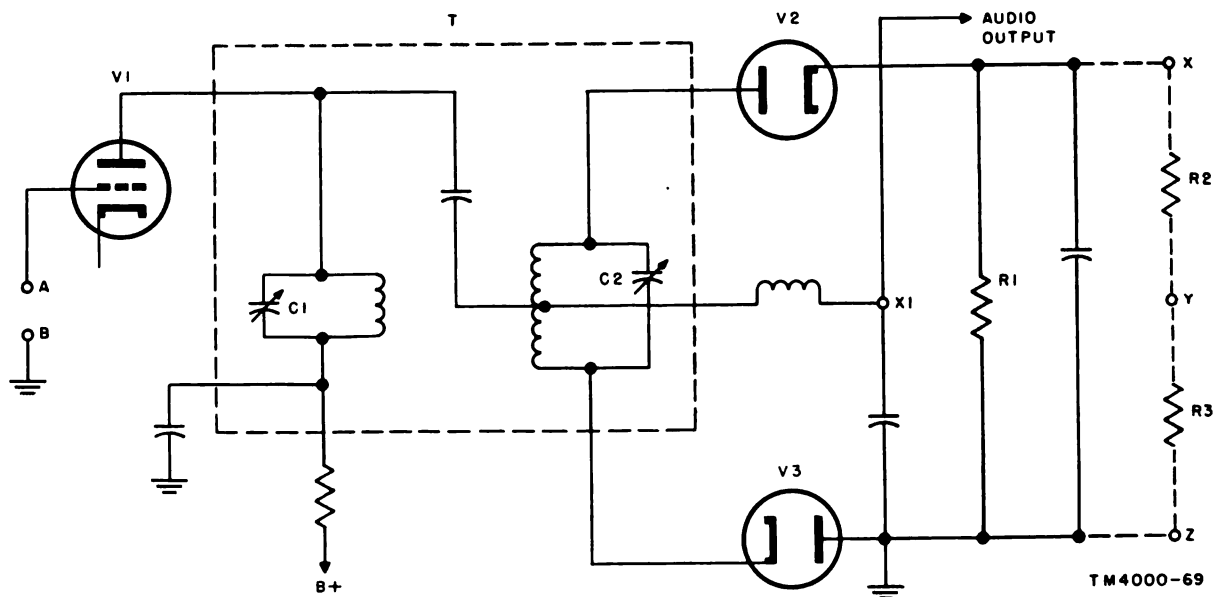

Figure 82. Ratio detector circuit, showing modification for alinement.
b. To align the ratio detector (fig. 82), connect the signal generator as indicated in a above and set the generator to the correct frequency. Connect a high-resistance meter across R1 and adjust the primary of T for a maximum indication on the meter.
c. To align the secondary, it is necessary to divide the load circuit into two symmetrical parts. This can be done by connecting two resistors of 100,000 ohms each (R2 and R3 of figure 82) across load resistor R1. With R2 and R3 connected as in figure 82, connect the voltmeter between the junction of the two added resistors and the audio output terminal of the detector (X1 and Y of fig. 82). Tune the secondary of T for a zero indication on the voltmeter.
a. In receivers that use a ratio detector, the IF stages are alined by measuring the detector output voltage while tuning the IF amplifiers. To do this, connect the voltmeter across the ratio detector load resistor (such as R1 of fig. 82).
- (1) Connect the signal generator (adjusted for the correct IF) to the input of the first limiter.
- (2) Connect the voltmeter across the grid resistor of the second limiter. If two resistors are used in series in the limiter grid circuit, connect the voltmeter between the junction of the resistors and ground.
- (3) Tune the coupling circuit between the limiters for a maximum indication on the voltmeter. The signal generator output should be kept low so that the voltage indication will rise sharply when the limiter tuning is rocked back and forth.